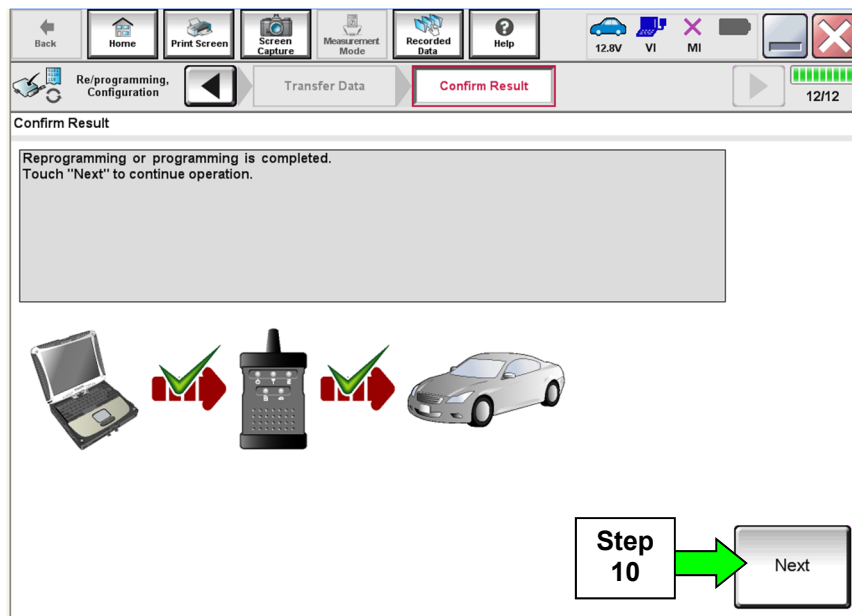

Figure 8
8. When the screen in Figure 8 displays, reprogramming is complete.
NOTE: If the screen in Figure 8 does not display (indicating that reprogramming did not complete), refer to ECM recovery on the next page.